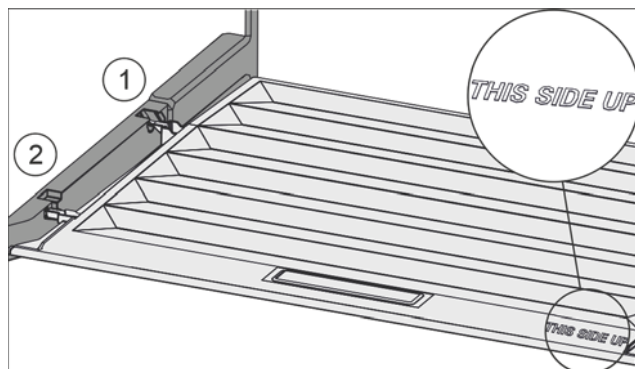

Fig. 29
- Insert the lip of the cover over the opening of the rear bracket Fig. 29 (1) and click into place Fig. 29 (2).